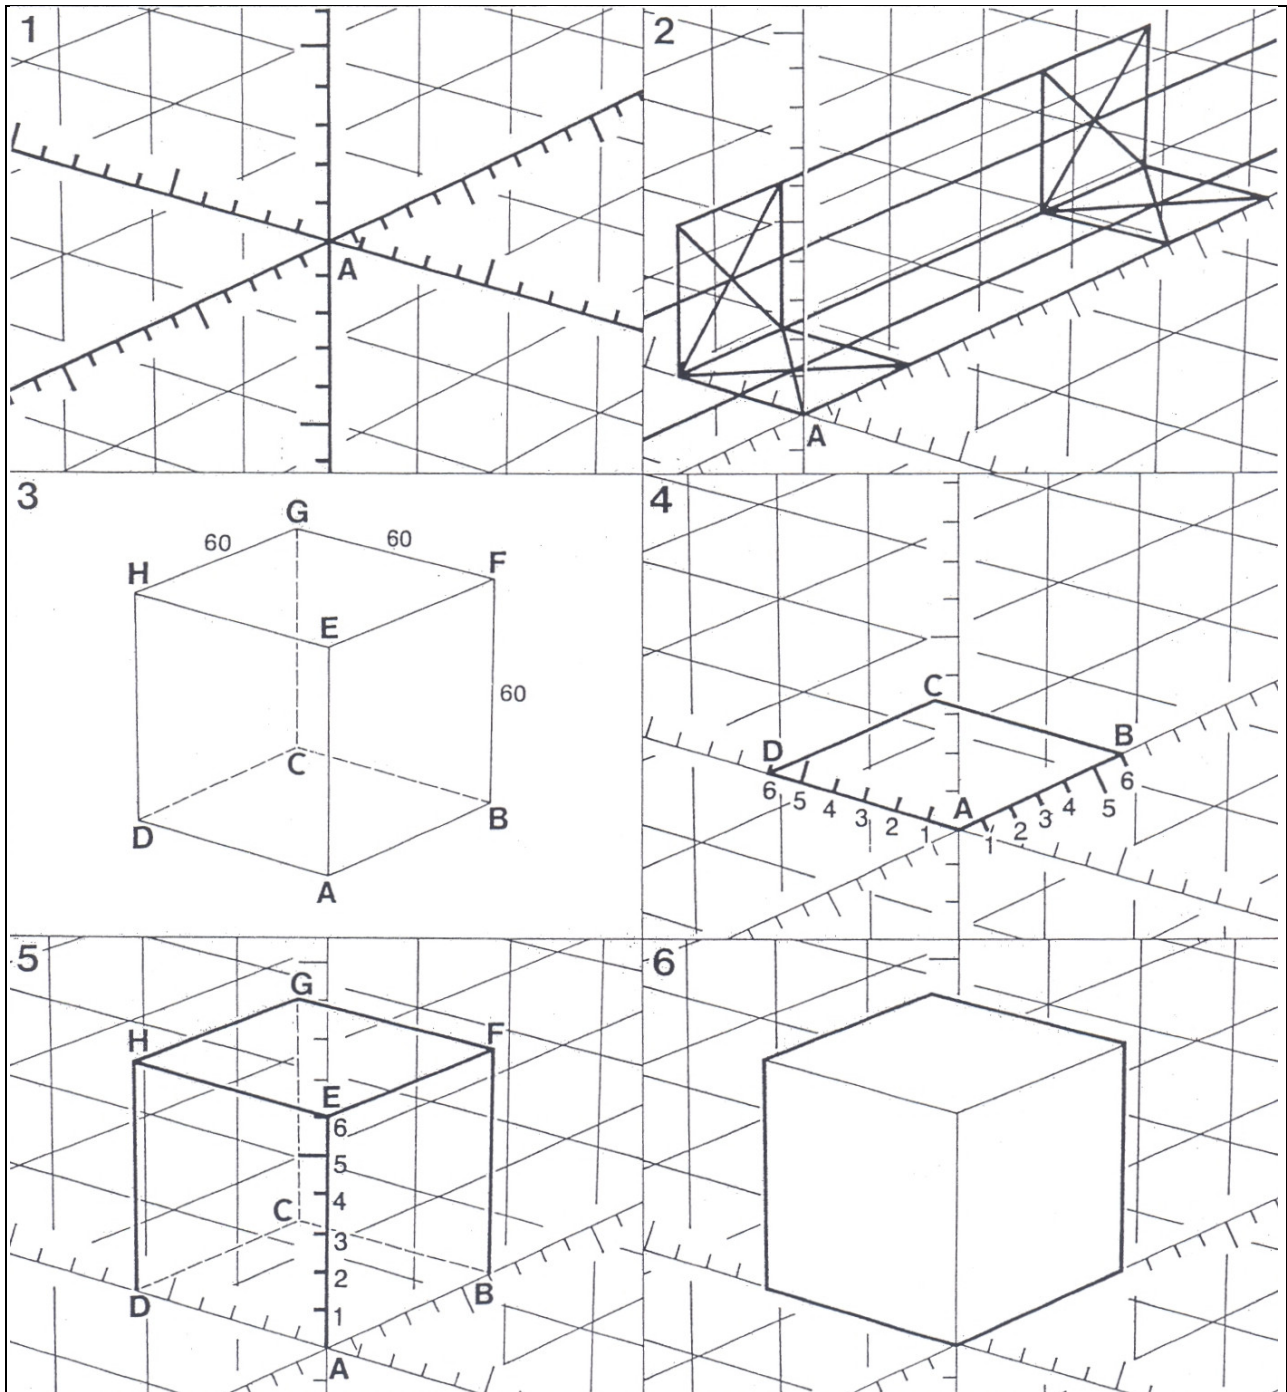

Figure 6.2 Constructing Simple Shapes on the Grid - A cube
Remember, the grid is like a maze, so use the same entry and exit points, otherwise you will undoubtedly get lost. Follow the step by step guide as shown pictorially in **Figure 6.2**.
3. Follow the steps as outlined in Figure 6.2.